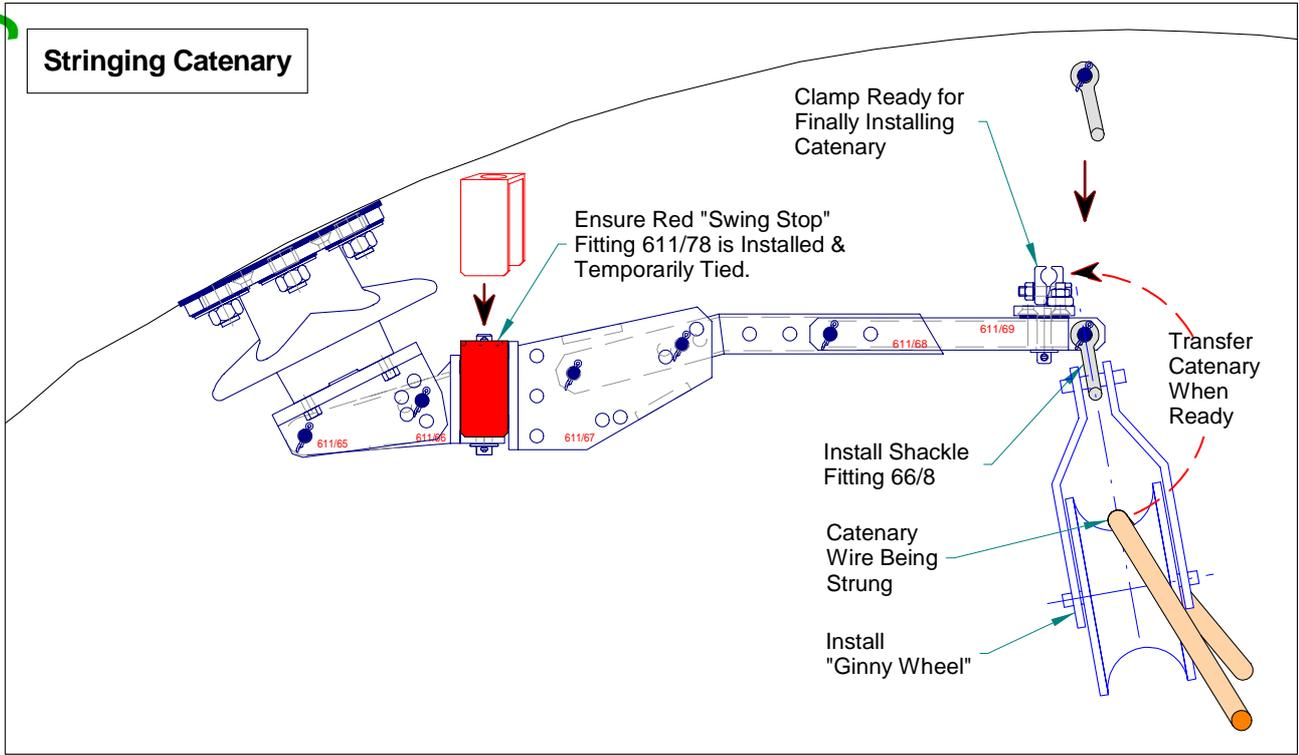

Figure 27 - Preparing the Tunnel Cantilever for Stringing the Catenary Wire
2. Install the “Ginny Wheel” on the hole provided at the end of the Internal Tube (Item 7), using a standard shackle (fitting 66/8). Refer to *Figure 27*.